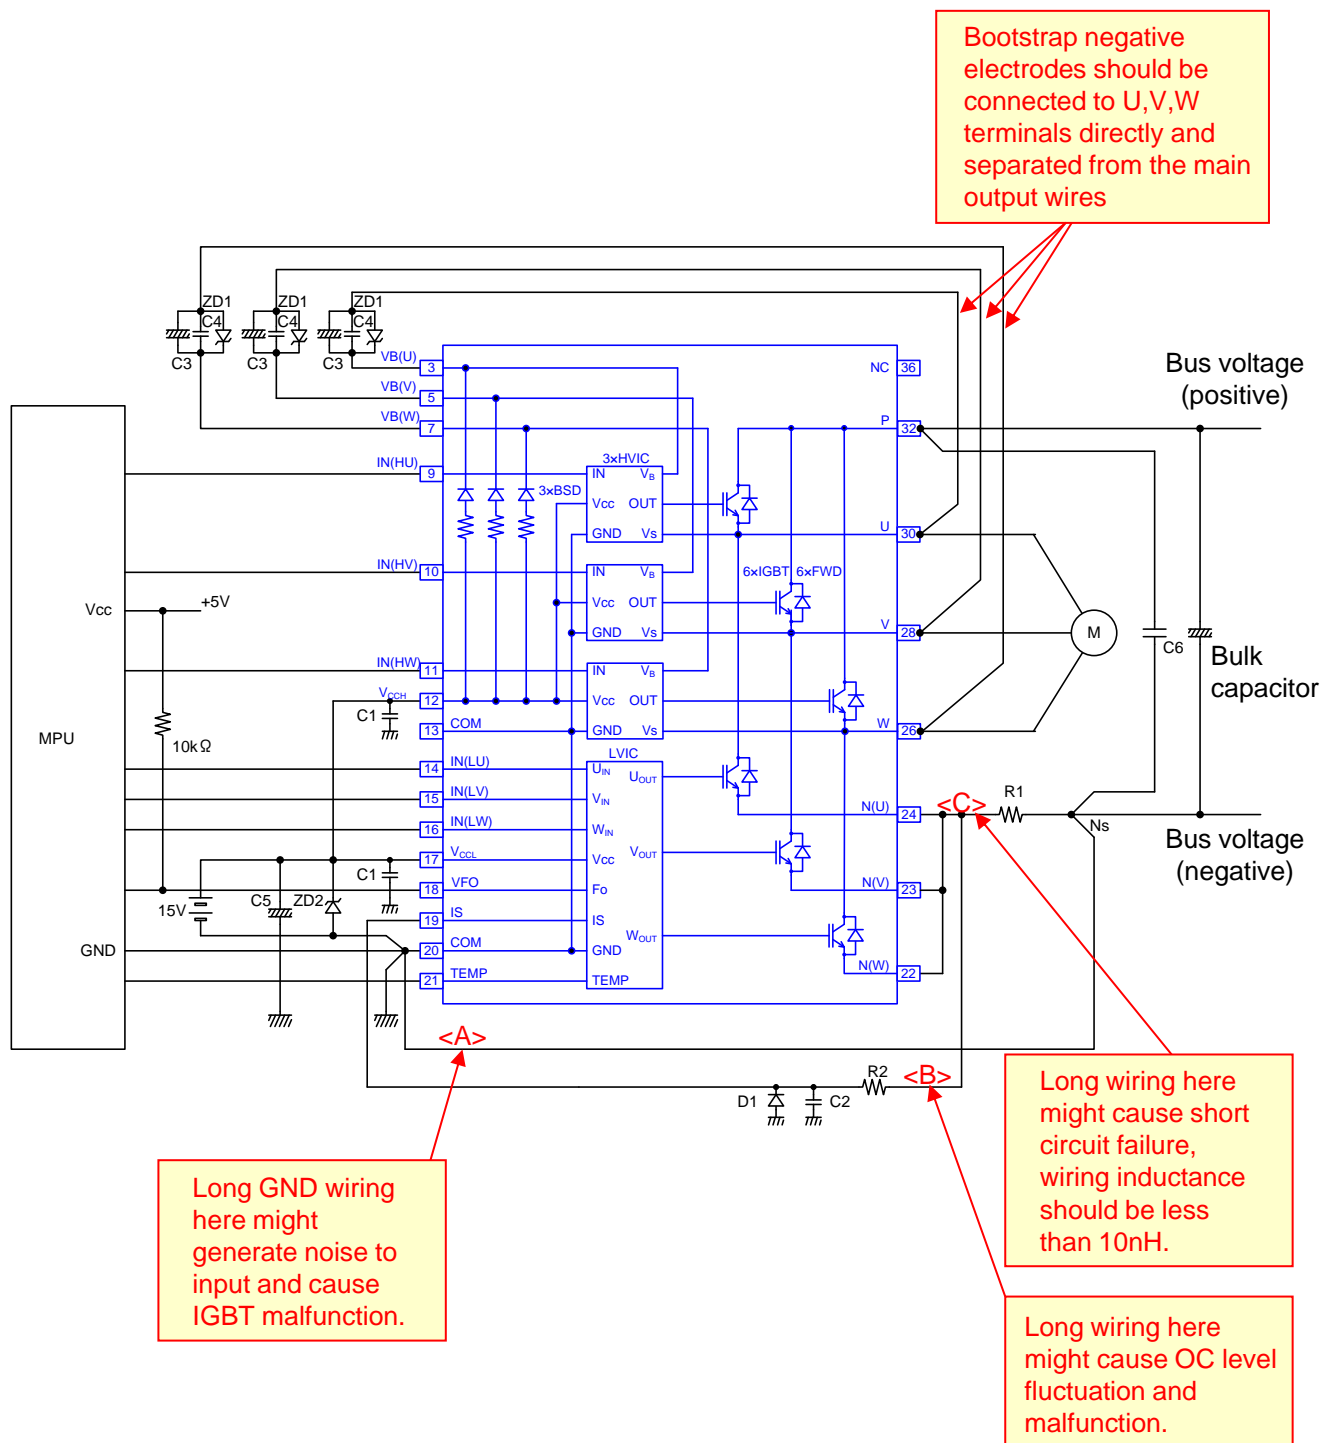
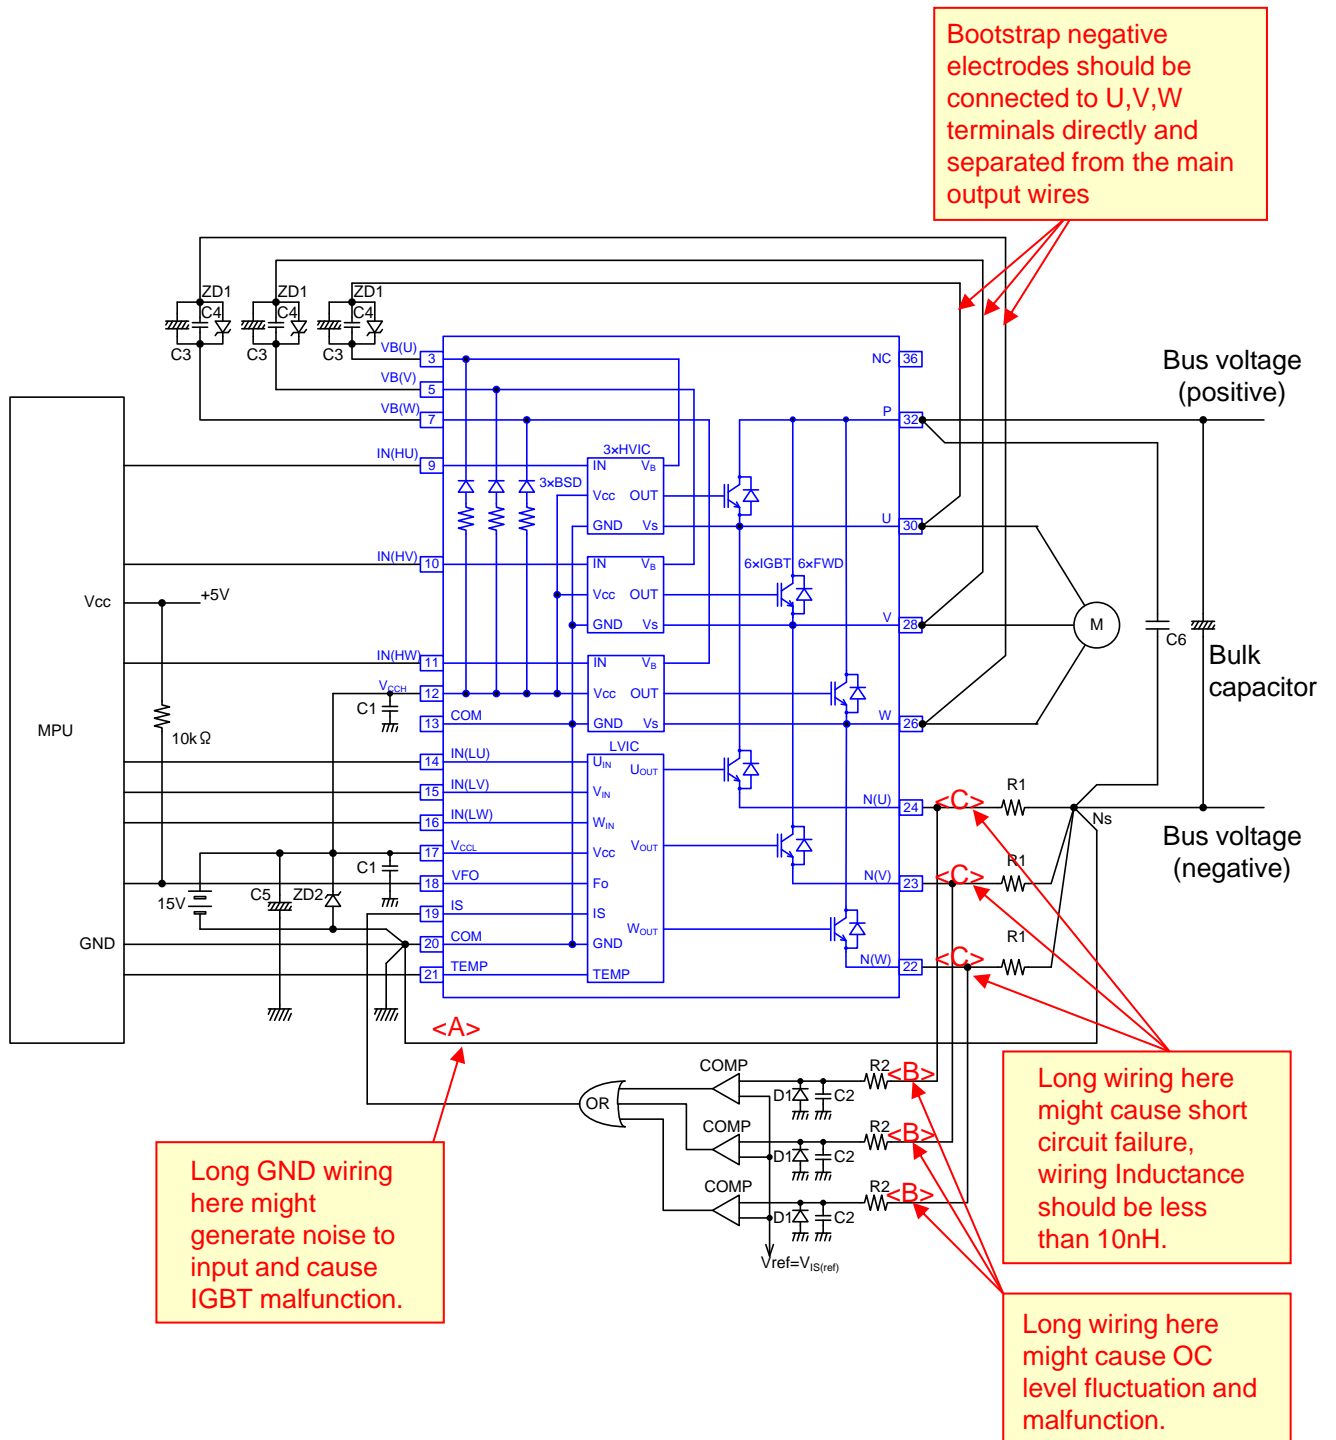
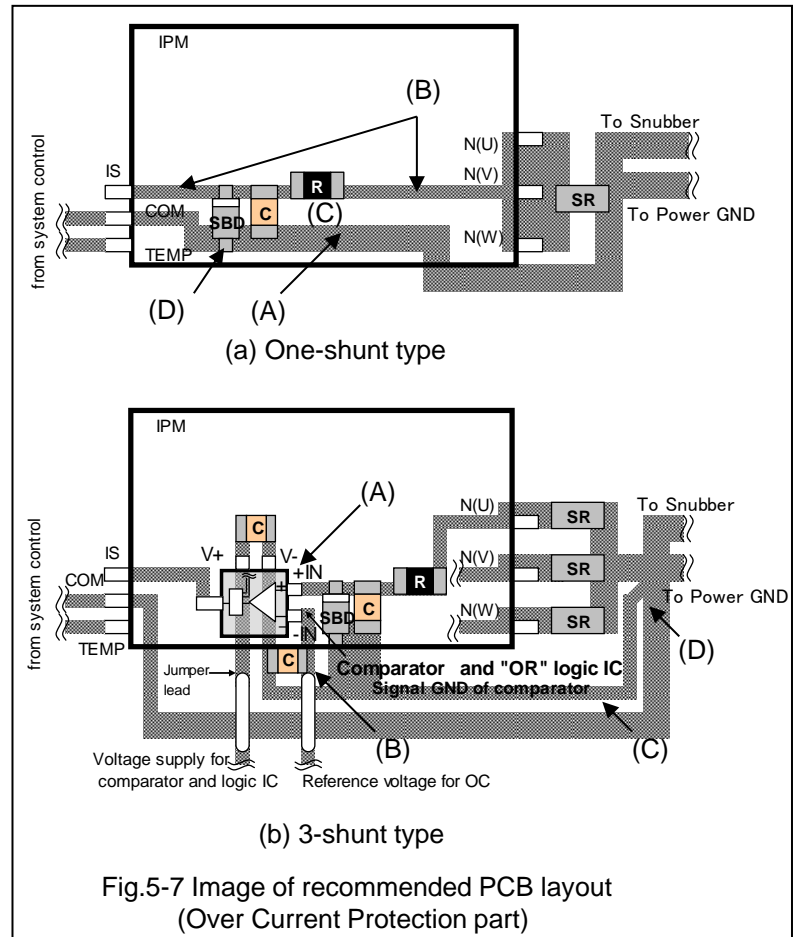

Fig. 5-1 Example of application circuit 1
Fig. 5-2 Example of application circuit 2
Fig.5-7 Image of recommended PCB layout
Fig. 5-1 and Fig.5-2 show examples of application circuits and their notes.
Fig.5-3 to Fig.5-7 show the images of recommended PCB layout (referring to example application circuit in Fig.5-1 and Fig.5-2).
As shown in Fig.5-1 and Fig. 5-2, there are 2 methods to sense over current. One is "One-shunt type" (Fig.5-7 (a)) and the other is "3-shunt type" (Fig.5-7 (b)).
In Fig.5-7 (a)
In Fig.5-7 (b)
- (A) Please use high speed type comparator and logic IC to detect OC condition quickly.
- (B) The reference voltage level of OC which is inputted to the comparator should be coupled by a capacitor to signal GND. The capacitor should be as close to the comparator as possible.
- (C) The pattern of signal GND for COM terminal and the pattern of signal GND for the comparator should be separated.
- (D) The pattern of signal GND from COM and the pattern of signal GND of the comparator should be connected at single point ground. The single point ground should be as close to the shunt resistors as possible.
- (E) The other precautions and recommendations are same as Fig.5-7 (a).